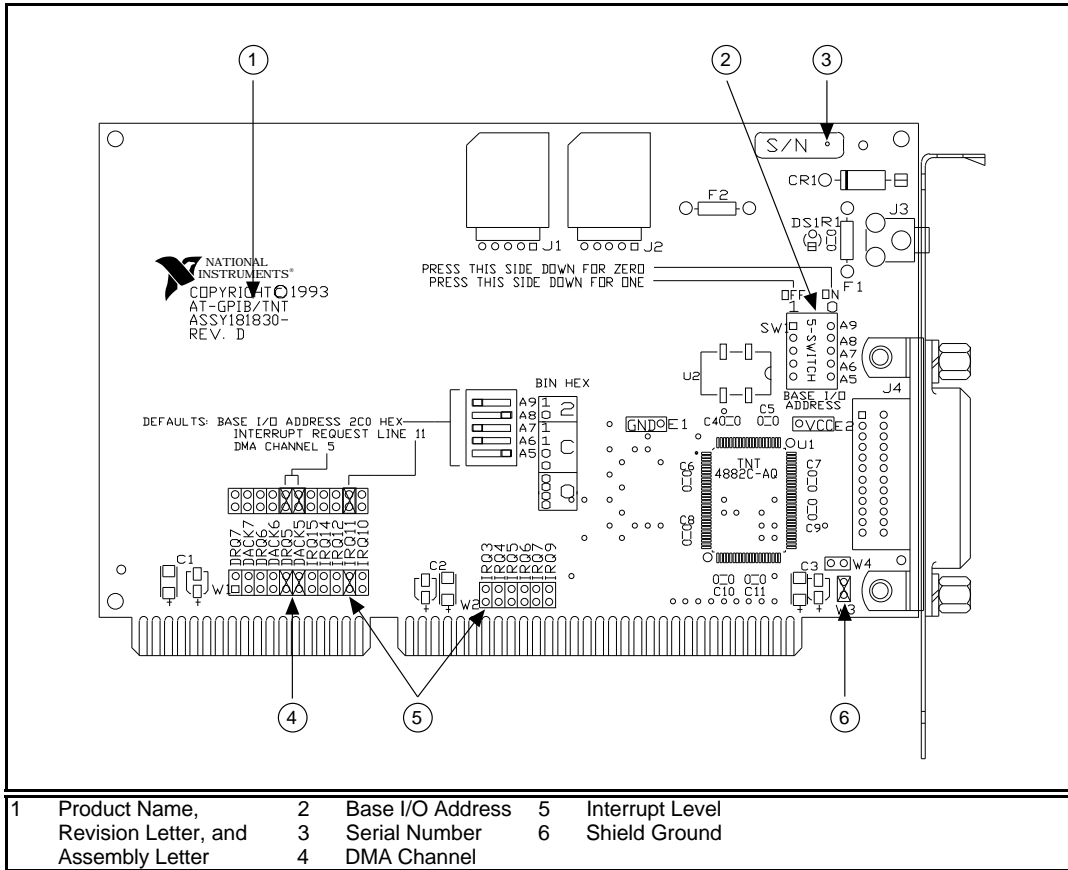

Figure 2-7. AT-GPIB/TNT Parts Locator Diagram
If the resources do not match the default settings, you must reconfigure the jumpers and switches, as described in the next few sections, to match the resources assigned to the AT-GPIB/TNT by Windows 95. Figure 2-7 shows the location of the configuration jumpers and switches on the AT-GPIB/TNT.
1. Locate the base I/O address switch at SW1 on your AT-GPIB/TNT board. Refer to the parts locator diagram, Figure 2-7.
1. Find the jumpers that set the interrupt request line. The jumpers are located on the lower edge of your AT-GPIB/TNT. Refer to the parts locator diagram, Figure 2-7.
1. Locate the jumpers that select the DMA channel. Refer to the parts locator diagram, Figure 2-7.
1. Refer to Figure 2-7 to locate the shield ground jumper W3 on the AT-GPIB/TNT.